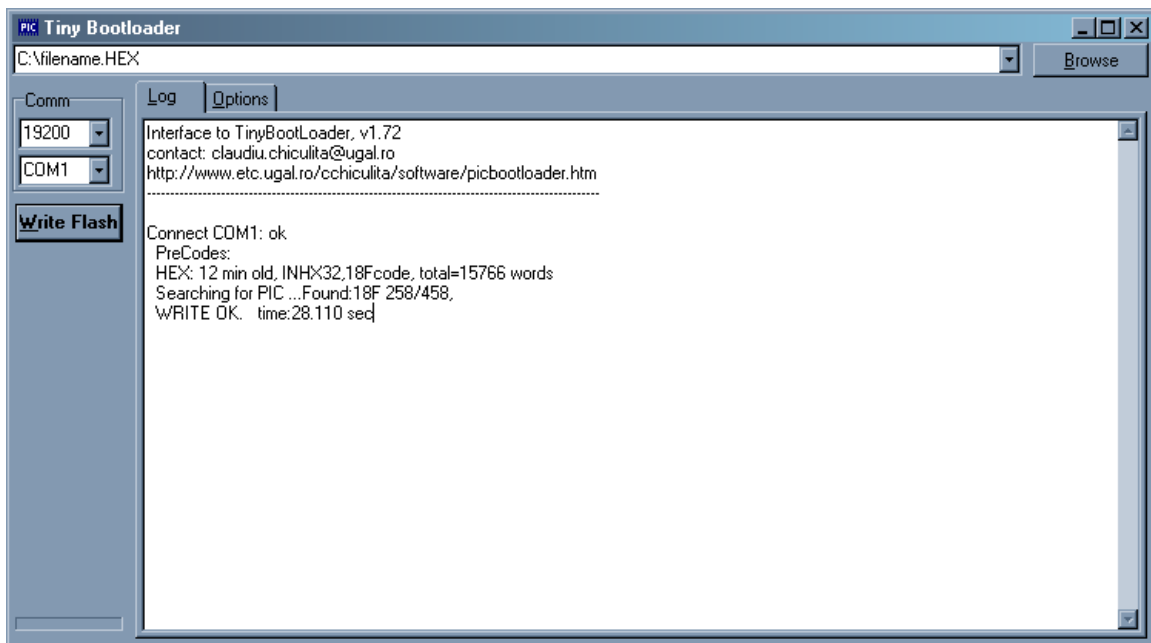

Figure 1
- 5) Click on the Write Flash button within a second or two of applying power to update the firmware. Do not remove power from the controller during programming. You can click on the Log tab to monitor the progress and verify that the programming was successful (see Figure 1). If the write fails try it a few more times. If after a few tries it still doesn't work, see below.